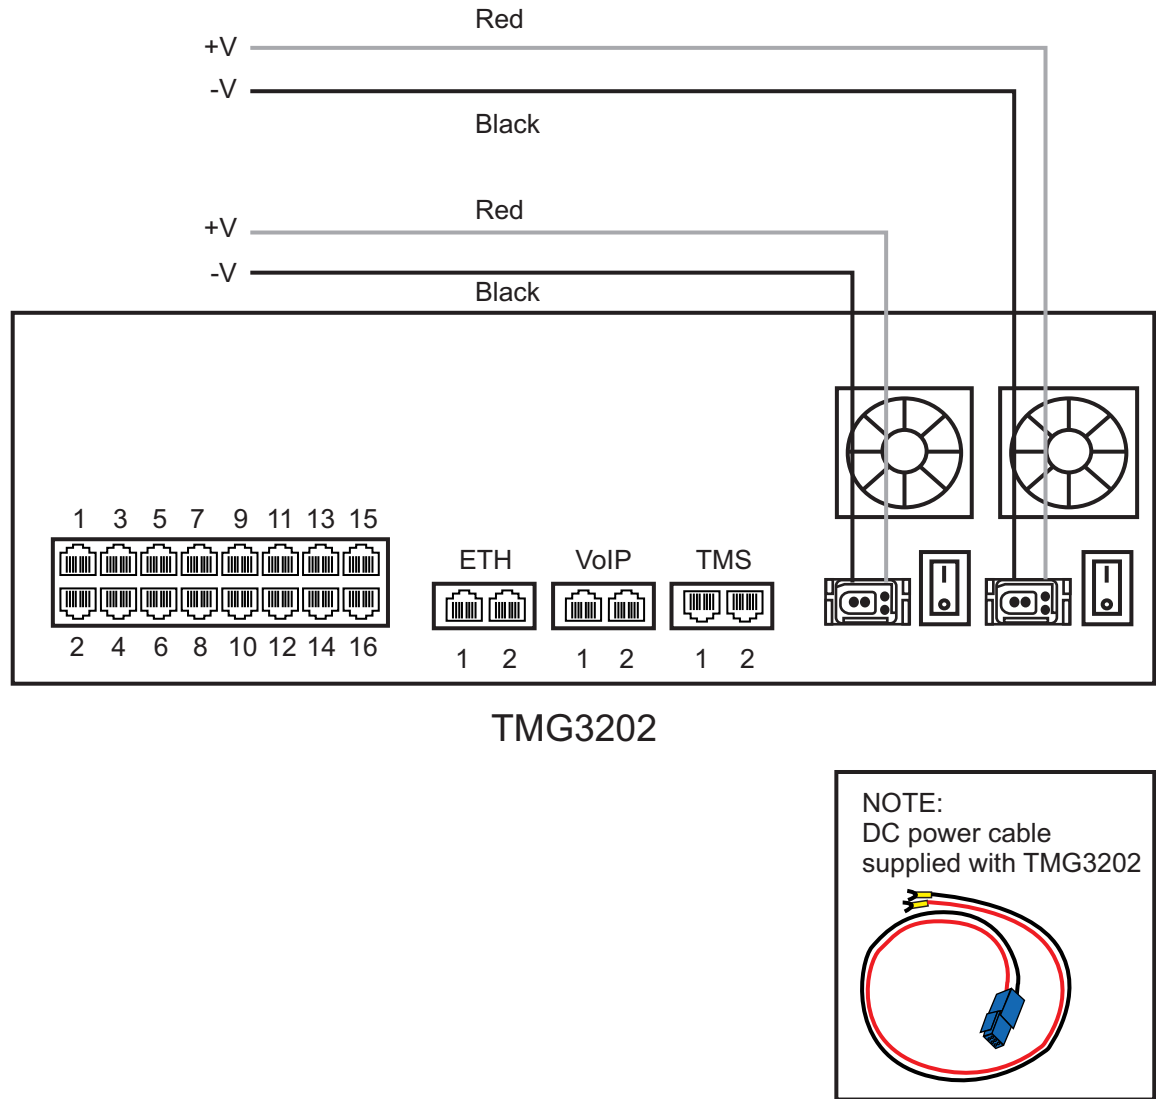

Figure 2.10 TMG3202 DC wiring diagram
1. Connect the DC cable supplied with the TMG3202, as shown in figure 2.10 on page 20, to the DC outlet at the rear of the TMG3202.
2. Connect the red lead of the DC power cable to the positive terminal of the DC power source, as shown in figure 2.10 on page 20.